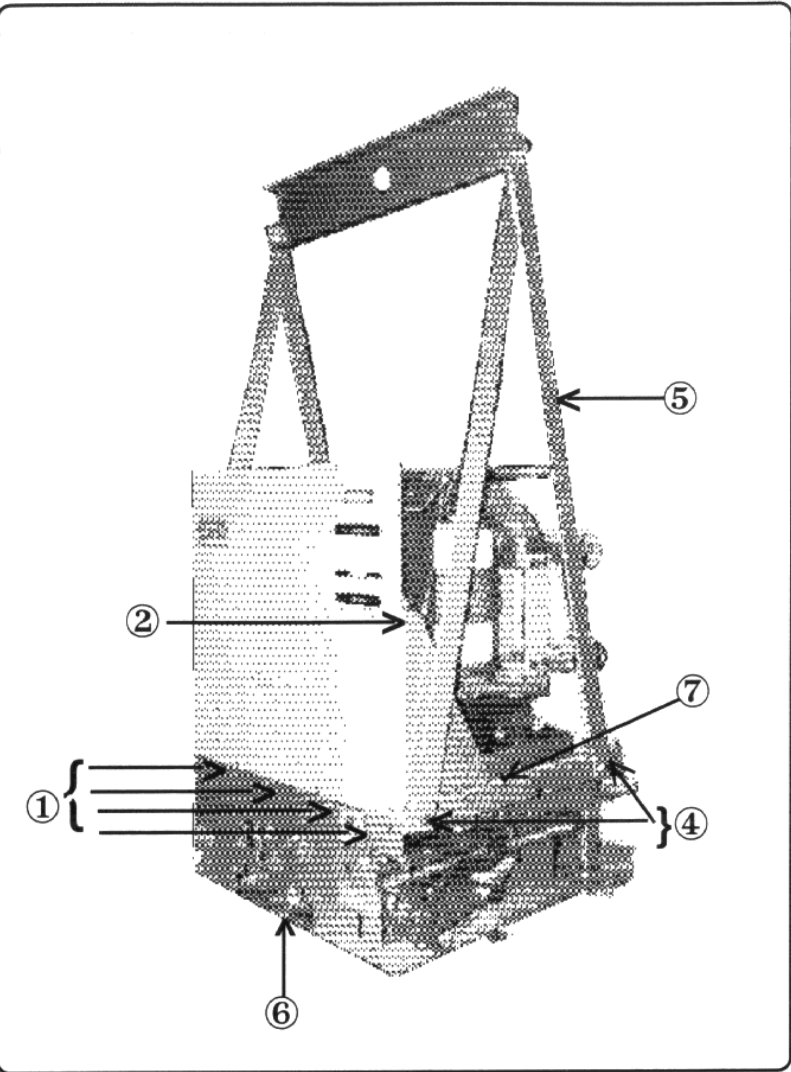

Fig. 1 - Circuit Breaker Assembly with Lifting Yoke Installed
Referring to Fig. 1, if it is necessary to raise or move the breaker, attach a lifting yoke (5) at point 4 on both sides of the truck, or a fifth wheel at point 6 to transport the breaker as required.
The front cover assembly (2, fig. 1) must be removed for access to and inspection of the vacuum interrupters, and their associated adjustments.
### Removing Front Cover (See Fig. 1)
### Installing Front Cover (See Fig. 1)